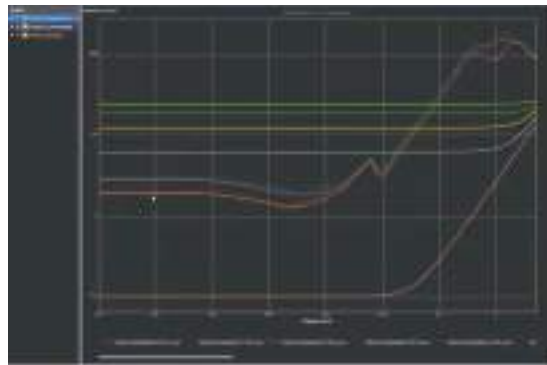

Figure 29: Results showing overlay of all eight port target impedances
**Step 3:** Now that the designer has the setup, the impedances on all eight of the nodes can be examined and compared to the existing target impedances. Figure 29 shows an overlay of all eight of the target impedances of the ports. It can be seen that for some of the lower frequencies most of the target impedances are being met, but some are definitely peaking out at above about 100MHz. This might be an indication back to the design team that some of the impedance above 100MHz might need to be reduced as it may not be meeting the power ripple specification.